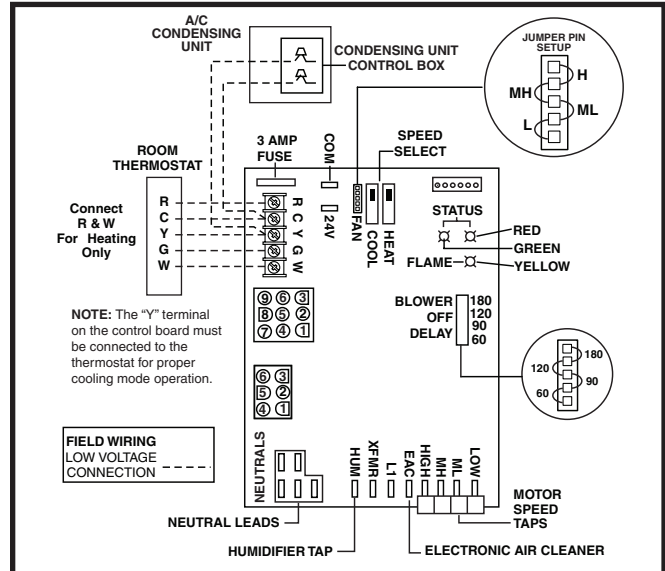
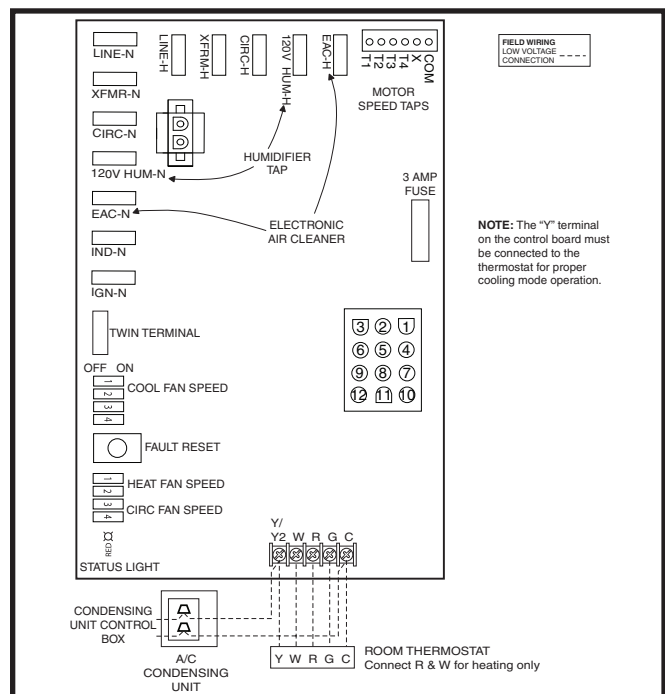

Figure 27. Nordyne/UTEC Low Voltage Field, Four-wire Heating/Cooling Applications
Figure 28. Emerson Low Voltage Field, Four-wire Heating/Cooling Applications
- The thermostat must be installed according to the instructions supplied by the thermostat manufacturer. Low voltage connections (24 VAC) from the thermostat are wired to the terminal strip on the integrated control in the furnace. Figure 27 contains the proper connections for heating only (two-wire) and heating/cooling (four-wire) applications. Recommended minimum wire gauge for thermostat wiring is shown in Table 5 (page 24).
- ✓ Verify the jumper on the Nordyne/UTEC board or dipswitch on the Emerson board (for fan speed) on the control board. See Figure 27 \(page 25\) and Figure 28 \(page 25\).